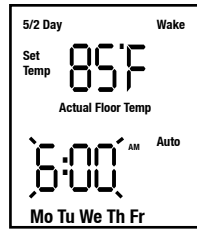

Figure 15
1. To enter the 5/2 Day program, press the Event/Program button once, the LCD display segments will be changed as per Figure 15 shown, the Hour digits and AM digits will flash.
1. To enter the 7 Day program, press the Program button once, the LCD display segments will be changed to as per Figure 15 shows. The Hour digits and AM digits will flash.